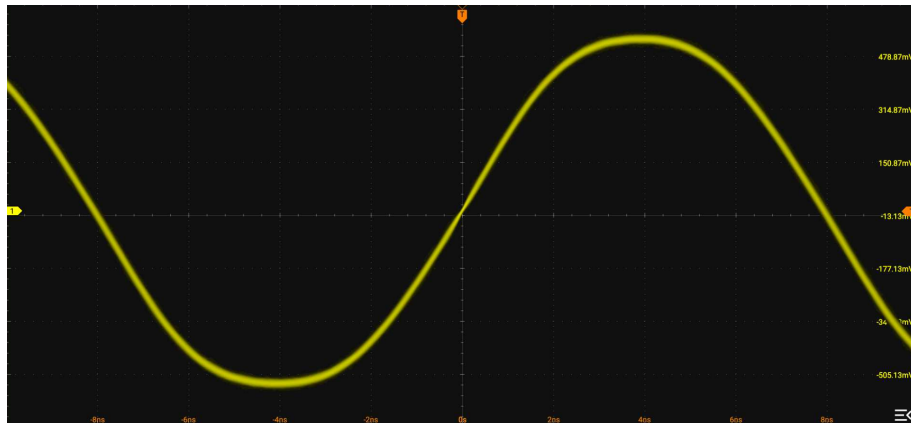

Figure 4.27 Data Signal Waveform
- MDI data signal generated from the DUT in Test Mode 3, as shown in *Figure 4.27*.